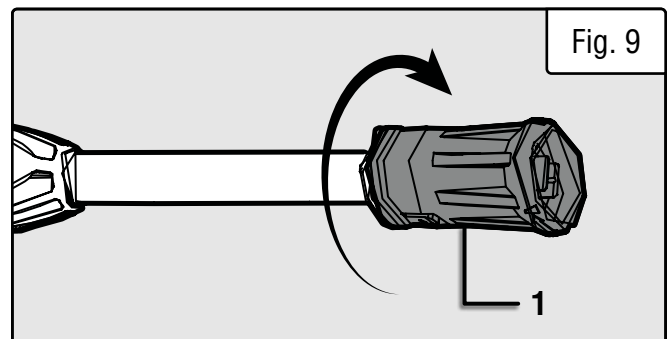

Fig. 9
5. Rotate the nozzle collar (Fig. 9 - 1) to select the desired water pressure and angle of spray.